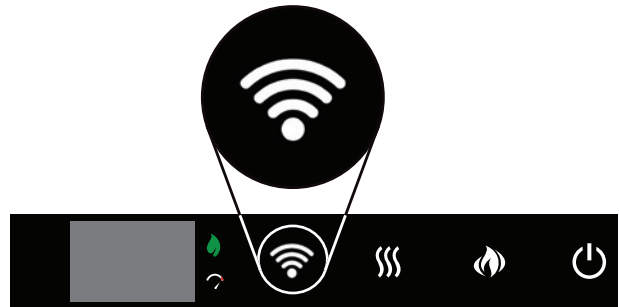

Fig. 17
2. Press and hold the Wi-Fi Control button on the appliance control panel for 8 seconds (**Fig. 17**).